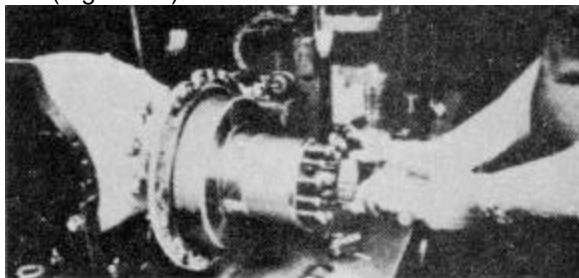

Figure 5-30
- Remove the hub bearing cone from the end of the spindle (Fig. 5-30).